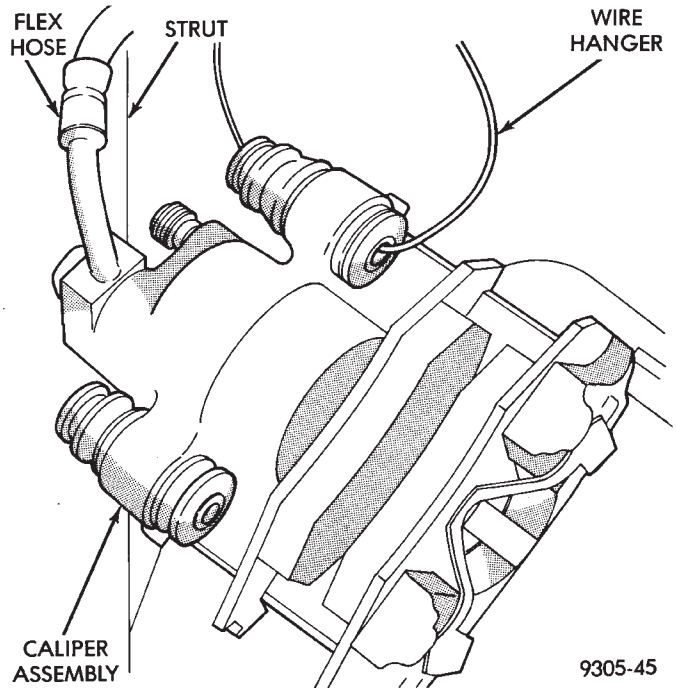

Fig. 45 Storing Caliper
(5) Support caliper assembly firmly from rear strut to prevent weight of caliper from damaging the flexible brake hose (Fig. 45).